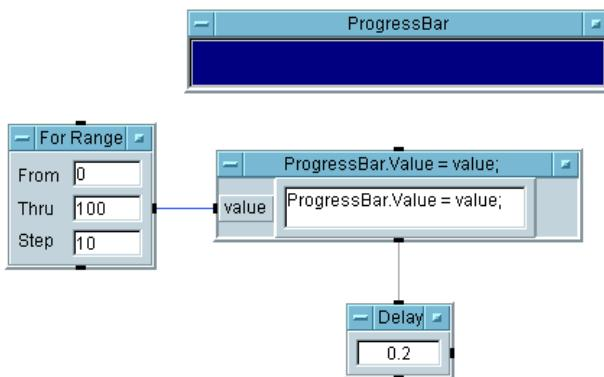

Figure 10-27. Using the ActiveX Control “ProgressBar”
5. To slow down program execution so that you can see the `ProgressBar` updating, select `Flow` \Rightarrow `Delay` and place the object to the right of the `For Range` object. Set it to .2. Connect the `ProgressBar` sequence output pin to the `Delay` object sequence input pin, as shown in Figure 10-27, and run the program.